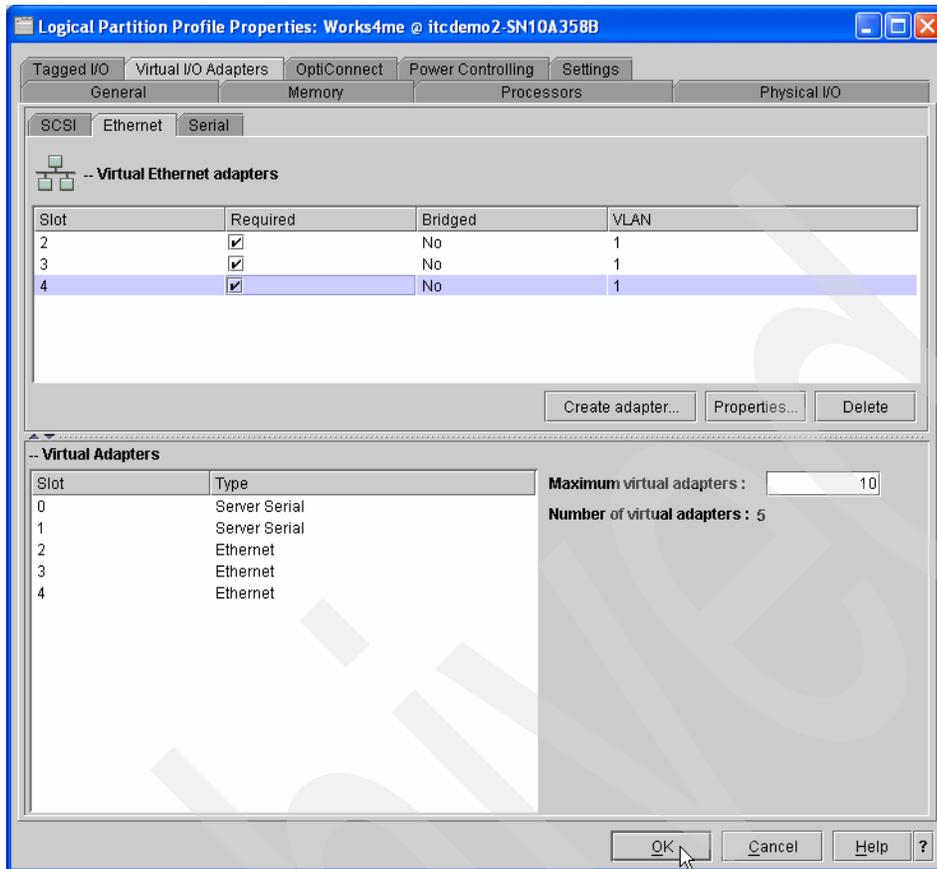

Figure 8-11 Creating Virtual Ethernet resources - 3
- To create additional Virtual Ethernet resources, simply repeat the same procedure. For example, we want to create two more Virtual Ethernet resources, using the same VLAN ID, so that three nodes can communicate on the same Ethernet network. Therefore, we create a second Virtual Ethernet resource on VLAN 1 using the next available slot (3), and a third Virtual Ethernet resource on VLAN 1 using the next available slot (4). We end up with three Virtual Ethernet resources, all using VLAN 1 as shown in Figure 8-11 on page 321.